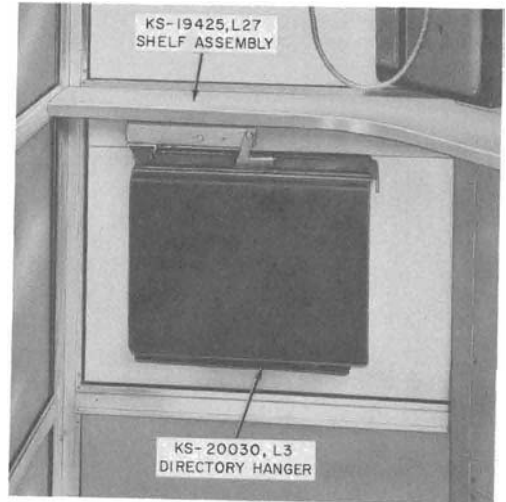

Fig. 10—KS-19425, List 27 Shelf Assembly with KS-20030, List 3 Directory Hanger
2.19 Refer to Fig. 10 through 12.
3.20 There are two shelf assemblies, a directory rack, a directory hanger and a directory shelf available for the booth. Install, when required, as follows (see Fig. 10 through 12):
(a) *KS-19425, List 27 Shelf Assembly and KS-20030, List 3 Directory Hanger (Fig. 10).*